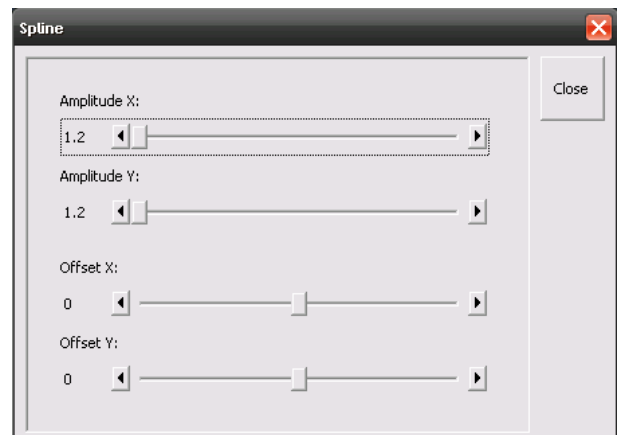

Fig. 23 Spline window
- The **Spline** window appears on the screen (see Fig. 23).